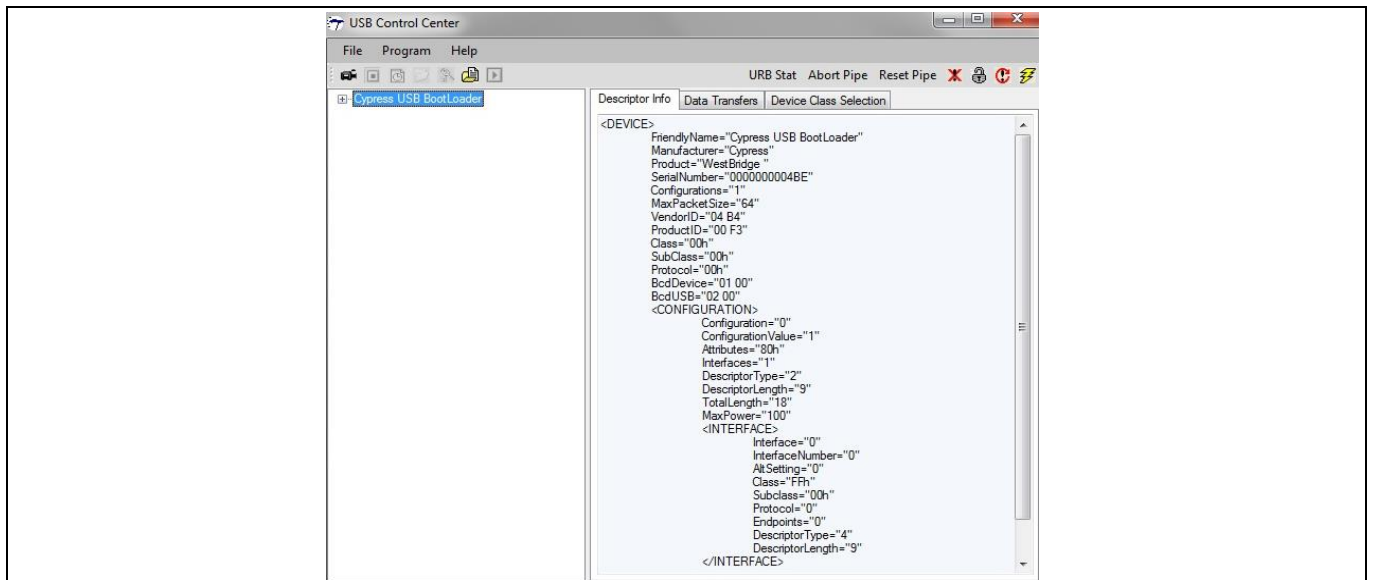

Figure 22 Cypress USB BootLoader enumeration in Control Center
3. When connected to a USB Host, the FX3™ device enumerates in the Control Center as “Cypress USB BootLoader,” as shown in Figure 22.